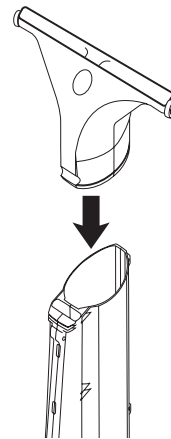

Fig. 20
2. Place the round opening of the patio head into the round vacuum opening (Fig. 20).
2. Insert the four (4) screws into the holes in the air filter/muffler cover (Fig. 20) and tighten.